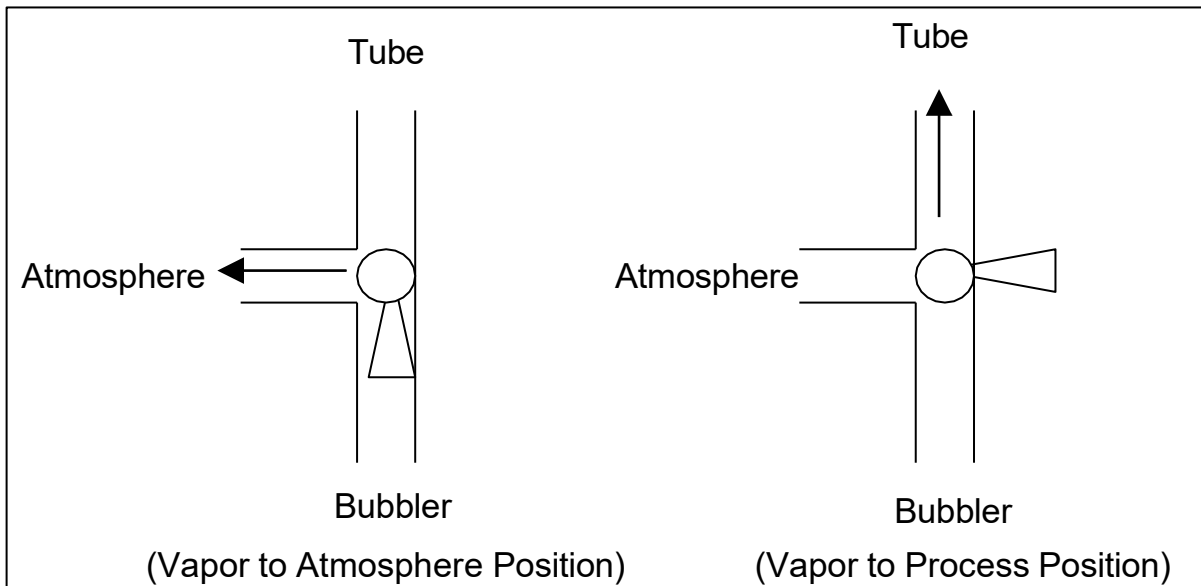

FIGURE 4 - Bubbler Valve Positions
6. Make sure that the bubbler vent valve is venting to the atmosphere by positioning the valve as shown in **Figure 4**.
10. Refer to **Figure 4**: Turn the bubbler vent valve to direct flow into the furnace (vapor to process position).